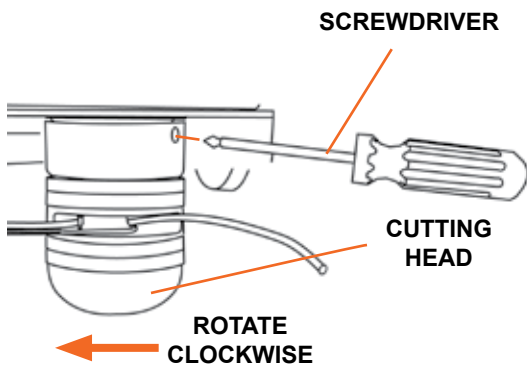

Figure 13
1. Align the hole in the anti-wrap canister with the hole in the internal housing at the location shown (see Figure 13).
5. Insert the screwdriver as shown in Figure 13 and tighten the assembly securely by turning the cutting head counterclockwise when looking down on the top of the frame.